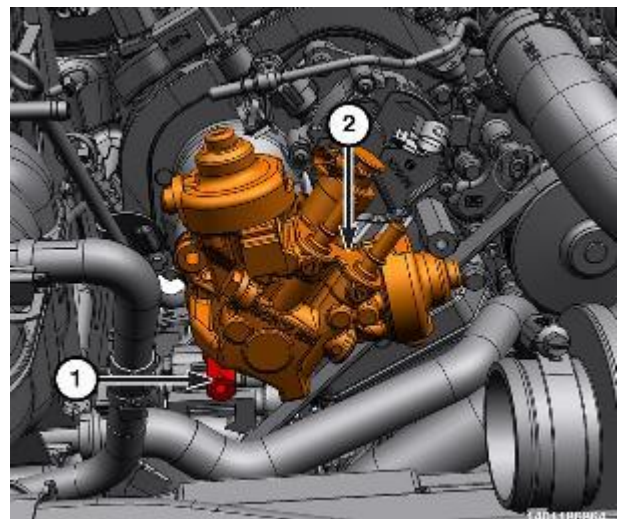

Figure 39 – HPFP Lower Bolt
- 74. Remove the lower bolt (1) from the HPFP (2) and remove it from the vehicle (Figure 39).
82. Install the lower fuel injection pump bolt (2) and hand tighten the bolt (1) (Figure 39).